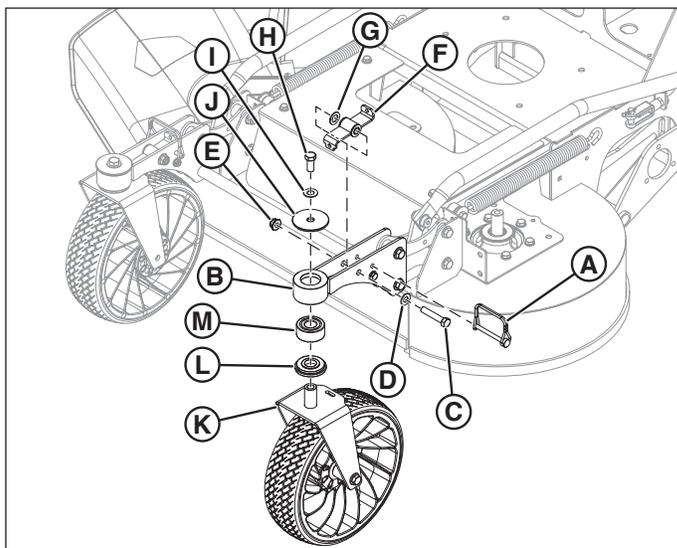
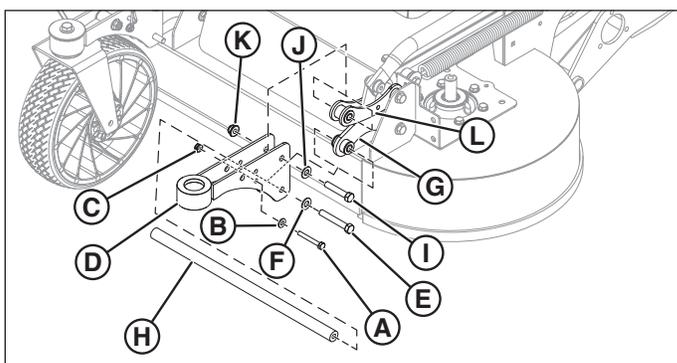

Figure 1. Removing the Front Caster Yoke
Figure 2. Removing the Front Caster Mount
3. Remove the locking pin (A, Figure 1) from the trim side caster mount (B).
4. Remove the 3/8-16 X 2-1/4" bolt (C), 3/8 washer (D), and 3/8-16 hex nylock flange nut (E) that secures the caster lock (F) and thin washer (G) into the caster mount.
5. Remove the 7/16-14 X 1" bolt (H), 7/16 washer (I), debris washer (J), caster weldment (K), and arbor shield (L) from the caster mount.
6. Remove the 1/4-20 X 2" bolt (A, Figure 2), 1/4 washer (B), and 1/4-20 hex nylock flange nut (C) that is installed into the caster mount (D).
7. Remove the 3/8-16 X 2-1/2" bolt (E) and 3/8 washer (F) that connects the bottom link weldment (G) and the 16-1/2" long rod (H) to the caster mount.
8. Remove the 3/8-16 X 2-1/4" bolt (I), 3/8 washer (J), and 3/8-16 hex nylock flange nut (K) that connects the caster mount to the top link weldment (L).
9. Repeat steps #3 through #8 to remove the other caster mount from the discharge side of the unit. Discard the four (4) 3/8-16 hex nylock flange nuts and two (2) 1/4-20 hex nylock flange nuts that were removed.
10. Use a press to remove the bearing (M, Figure 1) from the existing caster mount and press the bearing into the new caster mount. Repeat this step for the other caster mount. **Discard both of the existing caster mounts.**
- Install the new caster mount (**D, Figure 2**) to the top link weldment (**L**) using the 3/8-16 X 2-1/4" bolt (**I**), 3/8 washer (**J**), and a new 3/8-16 hex nylock flange (**K**).
- Apply Loctite® 242 Threadlocker to the threads of the 7/16-14 X 1" bolt (**H, Figure 1**).
- Install the caster lock (**F, Figure 1**) and thin washer (**G**) into the caster mount (**B**) and secure using the 3/8-16 X 2-1/4" bolt (**C**), 3/8 washer (**D**), and a new 3/8-16 hex nylock flange nut (**E**).
- 7/16-14 X 1" bolts (**H, Figure 1**).
- 1/4-20 X 2" bolts (**A, Figure 2**). - This hardware is only tightened until the nut and washer contact the sides of the caster mount.
- 3/8-16 X 2-1/4" bolts (**I, Figure 2**).
- 3/8-16 X 2-1/2" bolts (**E, Figure 2**).
- 3/8-16 X 2-1/4" bolts (**C, Figure 1**).